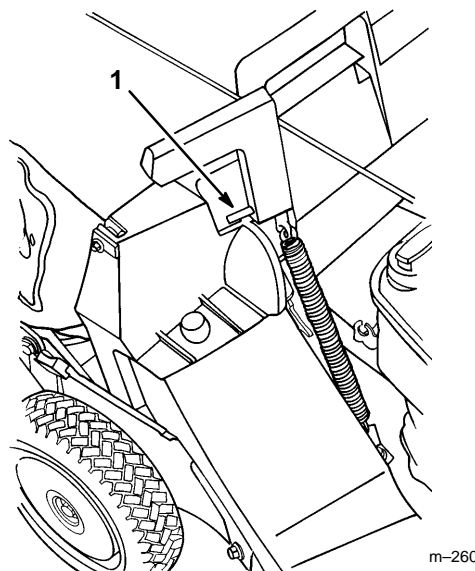

Figure 15
4. Pull discharge door handle forward until pin clears catch and move handle rearward until pin locks in bag notch (Fig. 15). Discharge door in mower housing is now open.